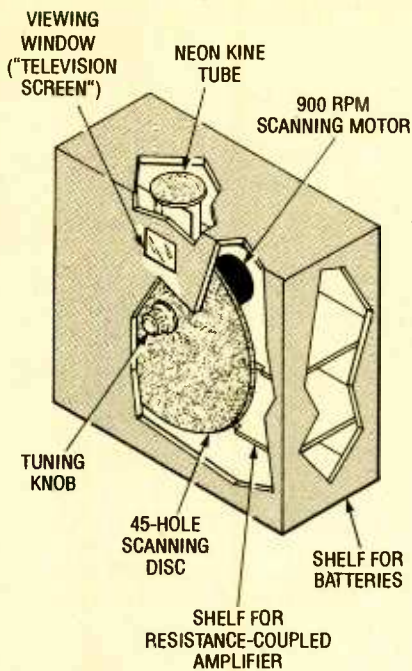

Fig. 1. This is a phantom view of a mechanical television receiver. Notice the relationship between the view screen disc and neon kine tube.
**Inside the Transceiver.** Figure 1 is a complete schematic diagram of the Ultrasonic CW Transceiver. The circuit consists of little more than a pair of 567 phase-locked loop IC's and eight transistors—seven 2N3904 general-purpose NPN silicon transistors and one MPF102 N-channel JFET. The remaining circuit elements serve support functions.
Fig. 1. The Ultrasonic CW Transceivers consist of little more than a pair of 567 phase-locked loop IC's and eight transistors—seven 2N3904 general-purpose NPN silicon transistors and one MPF102 N-channel JFET. The remaining circuit elements are nothing more than support components.
cable was used to connect the piezo transducer to the circuit. Assemble the circuit using Fig. 1 as a wiring guide.
First he prepared the shiny, 24-inch 20-gauge aluminum disc. Grandfather used a compass to find the center of the disc. Then he marked 45 even pie wedges on the disc. Next, he measured and center-punched the locations for 45 holes. He arranged these holes in three spirals. On a local machine shop's drill press, Grandfather drilled the center hole and the 45 "scanning holes". Then he located a large radio knob with a wide apron in his junkbox. He bolted the apron to the disc (see Fig. 1) with the knob's hole aligned with the center hole of the disc.
Oliver Lodge had spent only about two weeks performing some preliminary "alternate-path" experiments to confirm his theories prior to the lectures. He had used Leyden-jar discharges to simulate lightning flashes. The Leyden jars were usually charged using a "Voss machine" that generated static electricity through friction. The experimental arrangement used by Lodge is shown in Fig. 1.
*Fig. 1. This is a depiction of the apparatus used by Lodge to demonstrate that lightning is a high-frequency discharge. It would rather flow through the high DC-resistance air gap (B) rather than the low DC-resistance wire (L).*